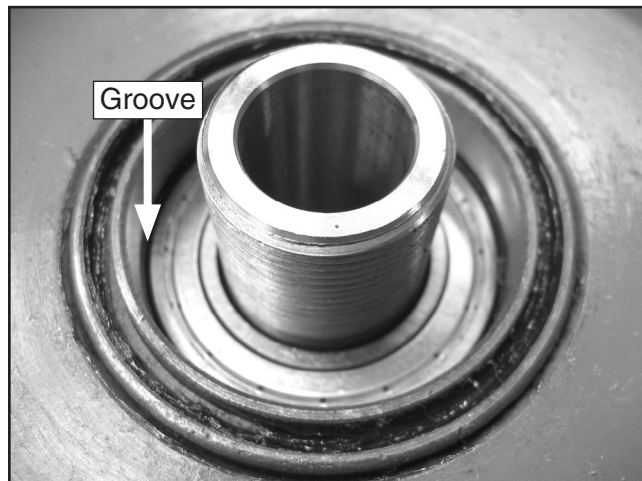

Figure 11. Installing new spindle.
Be careful not to damage the bearings during spindle installation by using excessive force on misaligned bearings. The spindle should be positioned where the retaining ring groove is visible, as shown in **Figure 11**.
16. Re-install the internal retaining ring, making sure that it is properly seated in the groove (**Figure 11**).